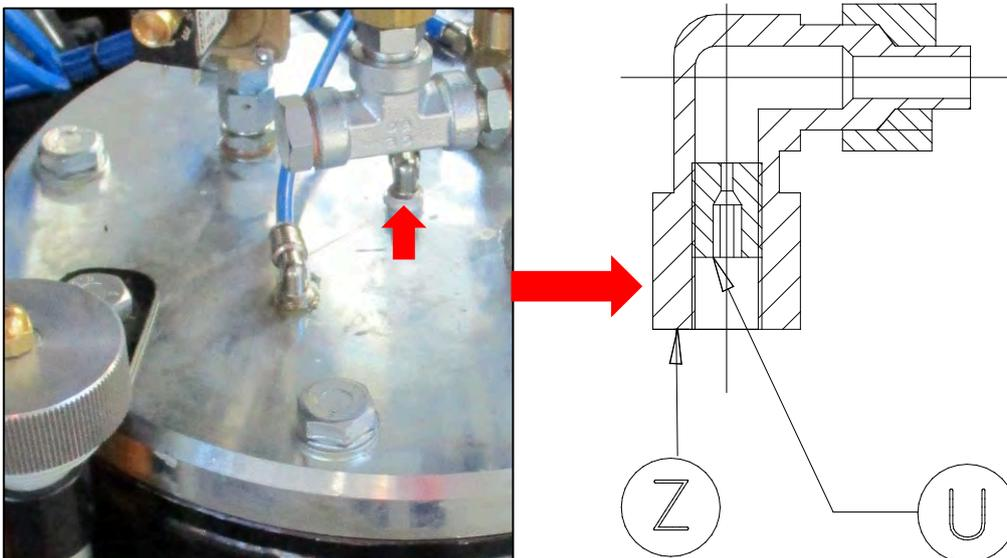

Figure 13.4.7-1 Nozzle oil recovery
If control and cleaning of the oil recovery nozzle is to be performed. Should you find a leak of oil mist mixed with compressed air, proceed with the following steps (Figure 13.4.7-1).
- 1) Unscrew the fitting located at the center of the tank (Letter Z in Figure 13.4.7-1);
- 2) Inside the 90 degree fitting (Letter Z in Figure 13.4.7-1) is a nozzle (Letter U in Figure 13.4.7-1): make sure that its calibrated hole is not blocked (blow with compressed air);
**WARNING:** During normal operation of the compressor, inside the transparent scavenger line, you will notice a certain amount of oil flow from the said fitting (Z) towards the head of the compressor